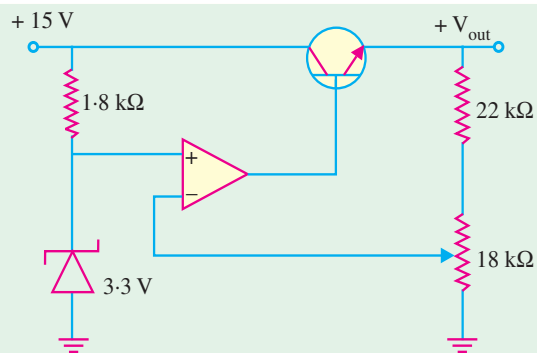

Fig. 56.31
2. Determine the output voltage, V_{out} for the op-amp series regulator shown in Fig. 56.31. (7.3 V)